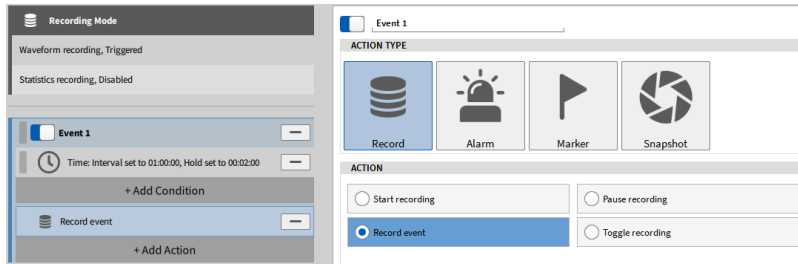

Figure 7-30: Record Event Action Type
- Select *Record Event* as Recording Action Type (see Figure 7-30):